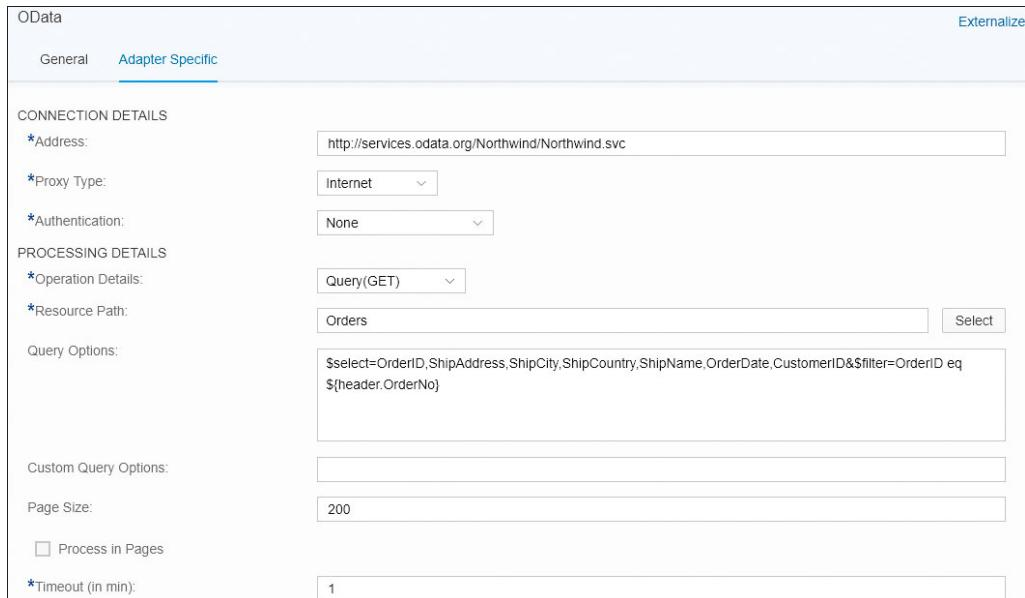

Figure 6.12 OData Adapter Configuration (Example)
Let's assume you've already configured the integration flow as shown in Chapter 4, Section 4.3. For your convenience, we again show the attributes of the OData adapter in Figure 6.12.
- You can, of course, configure the OData adapter differently than explained in Chapter 4, Section 4.3. However, make sure that you also specify the field `ShipCountry` (to be retrieved during the OData request), as shown in Figure 6.12.
Note that the mail adapter isn't the only part of the integration flow where a value is dynamically retrieved at runtime. As already mentioned, the OData adapter uses the expression `#{header.OrderNo}` in the filter condition (refer to Figure 6.12), which has the effect that the OData request retrieves the order for exactly that order number value provided in the incoming message. Strictly speaking, the integration flow developed in this section contains two dynamically configured attributes.